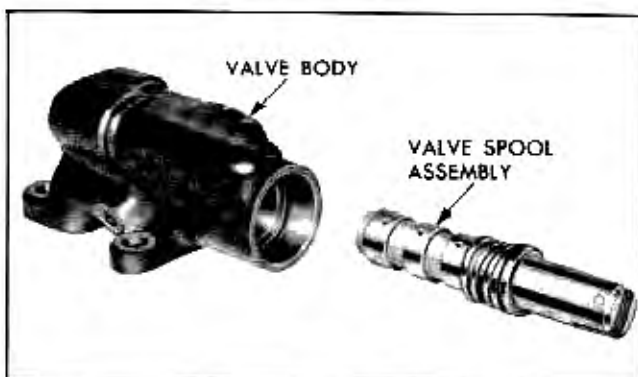

Fig. 9-31 Valve Spool Assembly Removed
2. Slide valve spool assembly out of valve body (Fig. 9-31). Care should be taken not to scratch or drop valve spool or body. **CAUTION:** Valve spool should not be disassembled since it may be distorted when loosening link.